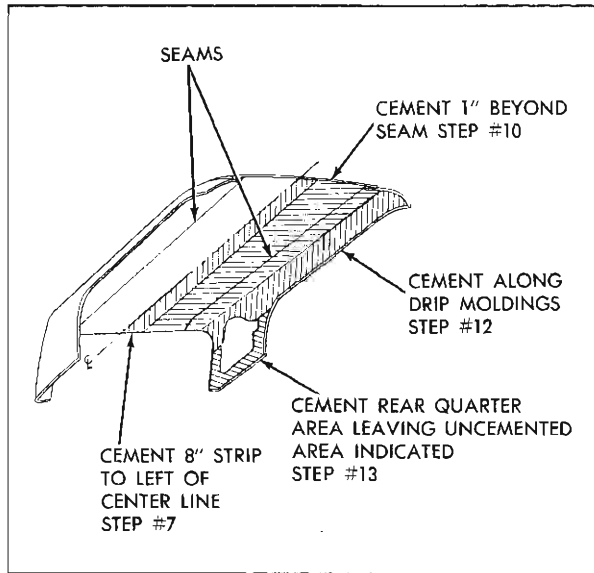

Fig. 21-76 Cementing Fabric Cover
7. Apply approximately an 8" wide strip of nitrile non-staining vinyl trim adhesive such as 3M Vinyl Trim Adhesive or Permalastic Vinyl Trim Adhesive or equivalent along exposed inner layer of fabric cover adjacent to center line. (See Fig. 21-76).
10. Once 8" strip of fabric cover is cemented to roof panel, fold over uncemented left side portion of fabric cover. Apply cement on inner layer of fabric cover to extend approximately 1" beyond dielectric seam. Apply cement to corresponding area of body (See Fig. 21-76).
12. Fold over fabric cover and apply cement to remaining portion of fabric cover and roof panel and drip molding. Cement cover to roof panel and drip molding. (See Fig 21-76).
13. Cement perimeter of fabric cover in rear quarter area. Be certain fabric cover is cemented at emblem or plate assembly attaching locations. This type of cement application will permit easier fitting of cover in rear quarter area. (See Fig. 21-76).